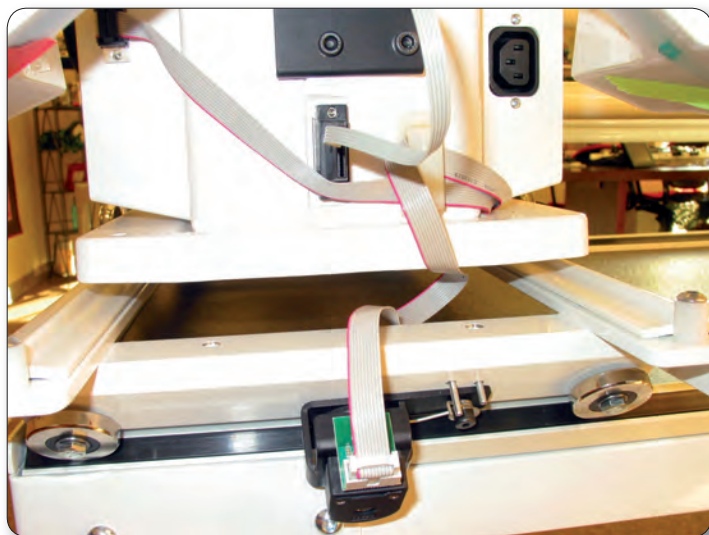

Figure 5
4. The remaining length of cable comes back under the Power Pod from the Rear Encoder Assembly, behind the machine, and into the 9 pin serial port of the machine (see Figure 5).